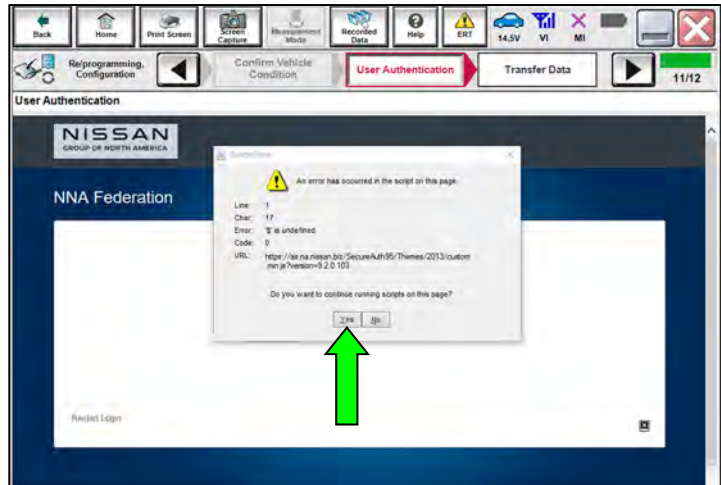

Figure 1
3. Turn the EV system ON (Not Ready) mode, by pressing the power switch two (2) times WITHOUT depressing the brake pedal.
6. If the Script Error shown in Figure 1 is present, select **Yes**.